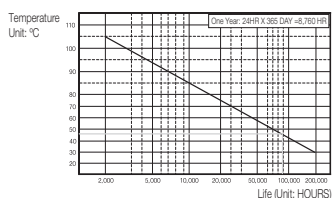

Figure 1
6. As shown in the Figure 1, the temperature inside the rack and around the DVR should maintain between 0 and 40°C (32 and 104°F).